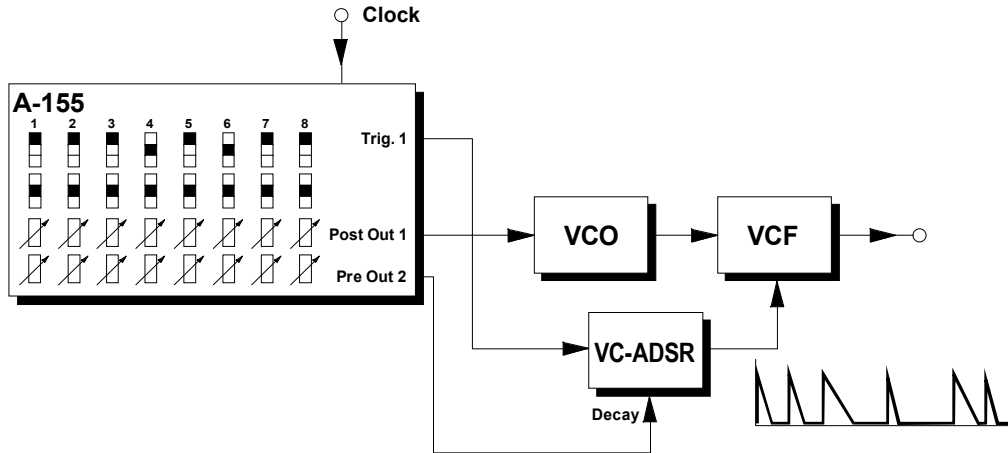
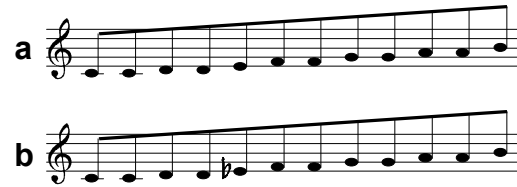

fig. 4: controlling decay time in a VC-ADSR
fig. 3: Major scale (a) and minor scale (b)
Trigger row 3 is available for any other control job you choose. Variations on the patch in fig. 3 might include controlling the VCF with either the same or a different ADSR, or using the lower analog CV row to control the decay time of a VC-ADSR (see also fig. 4).
In fig. 4 the lower analog CV row controls the **decay time of a VC-ADSR**. This in turn controls the cut-off frequency of a VCF, and so produces filter accents of different lengths.
In the "**Scale**" position all voltages corresponding to the scale selected with switch ① (major or minor) are passed to the control voltage output (see fig. 3).